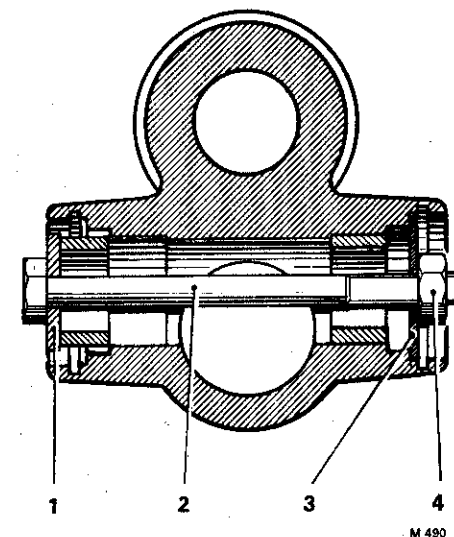

Fig. 2 Method of Fitting New Bushes
18. Place one of the new bushes into the housing (see Fig. 2), ensure that it is square with the bore.